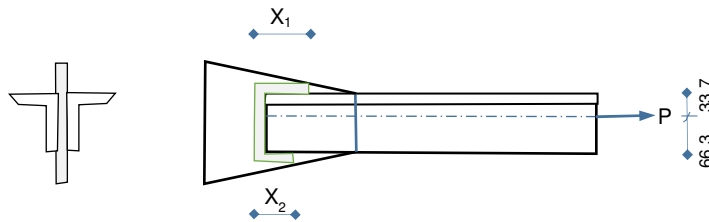

Figure 2
b) A tie bar in a truss consisting of a double angle section 100 X 65 X 10mm is subjected to a load of 250kN and is welded to a gusset plate as shown in figure 2. Design the joint with 8mm fillet weld. Permissible stress in weld is 100N/mm^2 (14 marks)